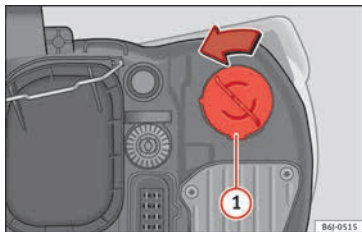

Fig. 101 Turn signal light.
- Turn the bulb holder » **Fig. 101 ①** to the left and pull.